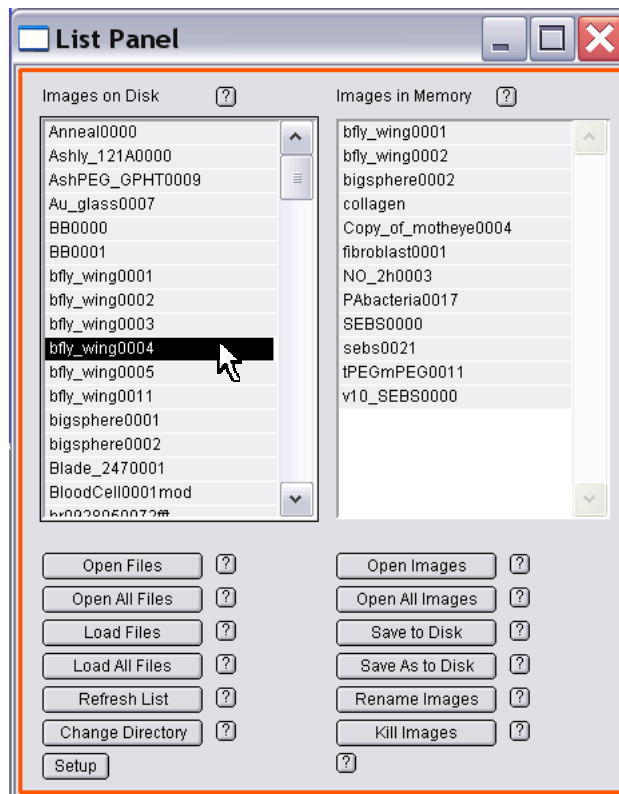

Figure 12.1.2: The List Panel
- Once the images have loaded, the Browse window (containing thumbnails of the images/ data; Figure 12.1.1), and the List Panel (contains just the files names; Figure 12.1.2) will appear.
▪ Images can also be opened in the List Panel (Figure 12.1.2). It consists of two columns- 'Images on Disk' which are the files stored in the folder; and 'Images in Memory' which display the images that have already been opened in the experiment.
▪ **List panel:** Open images, change directories, save images, rename extract images. See Figure 12.1.2.